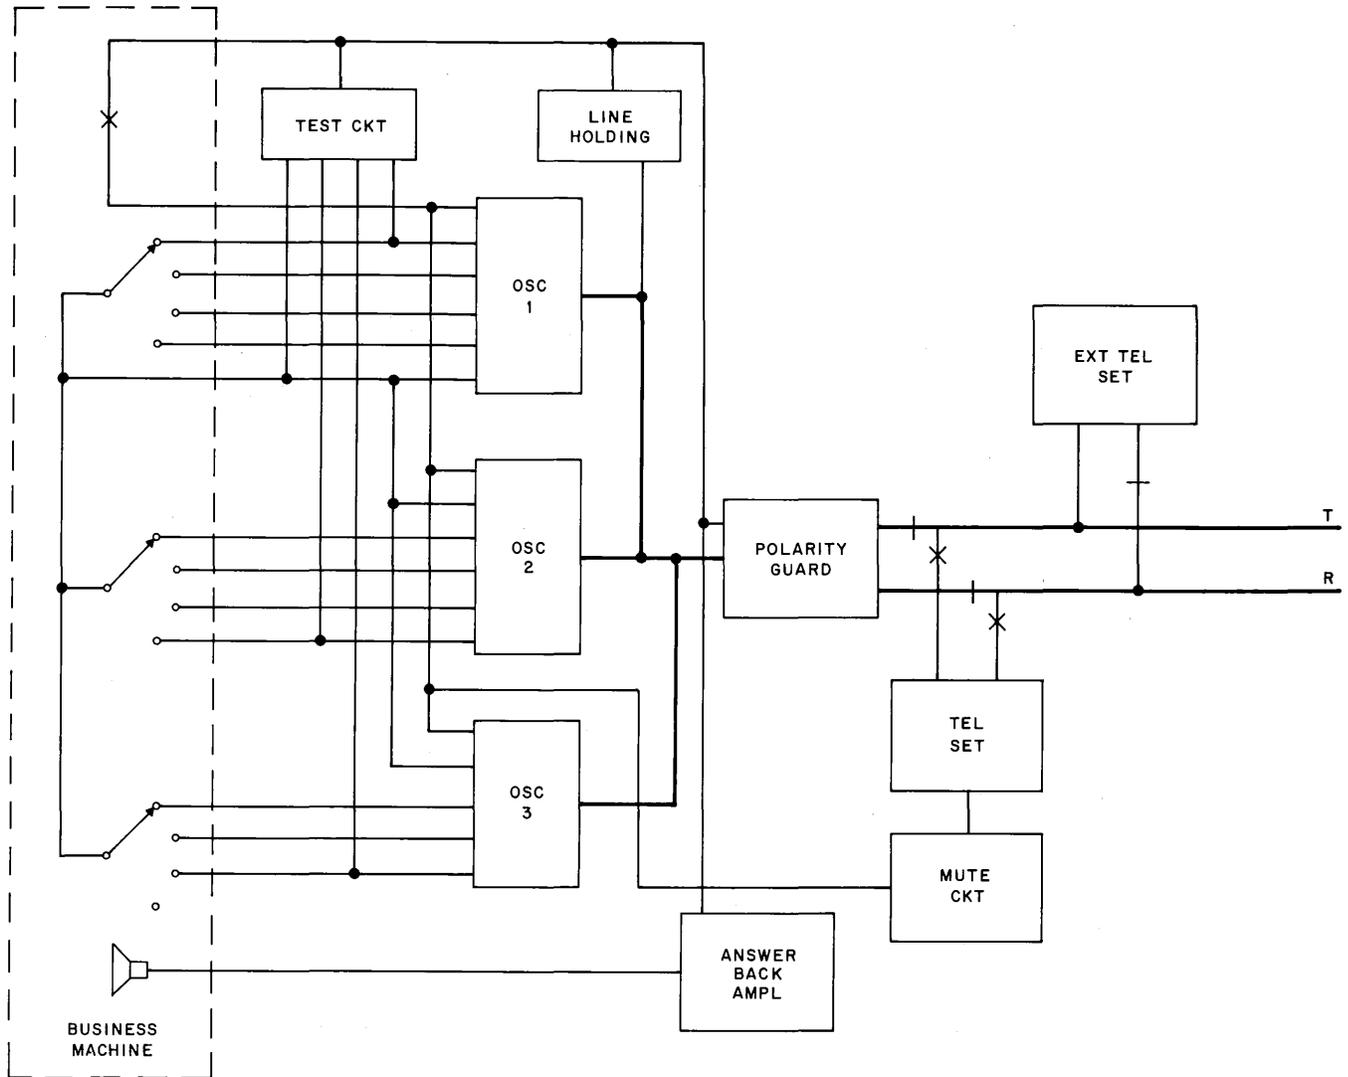

Fig. 4—Typical Block Diagram of Data Set 401-Type
**3.03 Data Mode:** A typical block diagram of the data set is shown in Fig. 4. The data set accepts data from the business machine in the form of contact closures. The contact closure changes the tank circuit of the associated oscillator and causes that oscillator to generate a frequency that represents the contact closure. When there